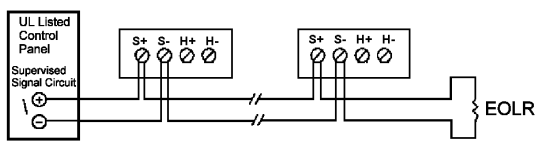
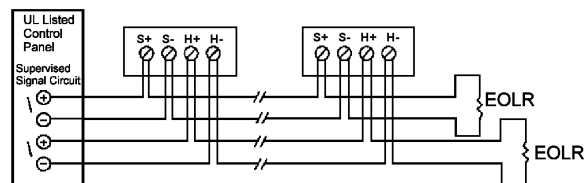
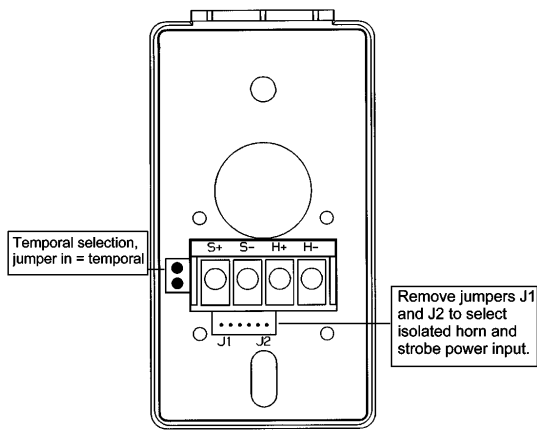

Fig. 4
Fig. 5
Fig. 6
2. Choose either temporal or continuous horn with the temporal horn synchronized (Fig.6).
3. Also wire the control module (AVS44) to only the strobe input power terminals, set the horn to continuous mode (Fig.6) and power it from a march time source. **NOTE:** For this option, J1 and J2 on the HS (Fig.6) must be removed to isolate power to the audible and visible portion of the circuit.
Fig. 4 and Fig. 5: Conventional Method
You may connect both the strobe and the horn directly from a source of rated power without the use of a control module. However, the horns and strobe lights will **NOT** be synchronized. Leave jumpers J1 and J2 in place on the HS (Fig.6) to power both the audible and visible from a single pair of power wires (Fig.4). If you wish to power the horn and strobe from independent sources of power, remove J1 and J2 on the HS (Fig.6) and connect power to the appropriate terminals (Fig.5).